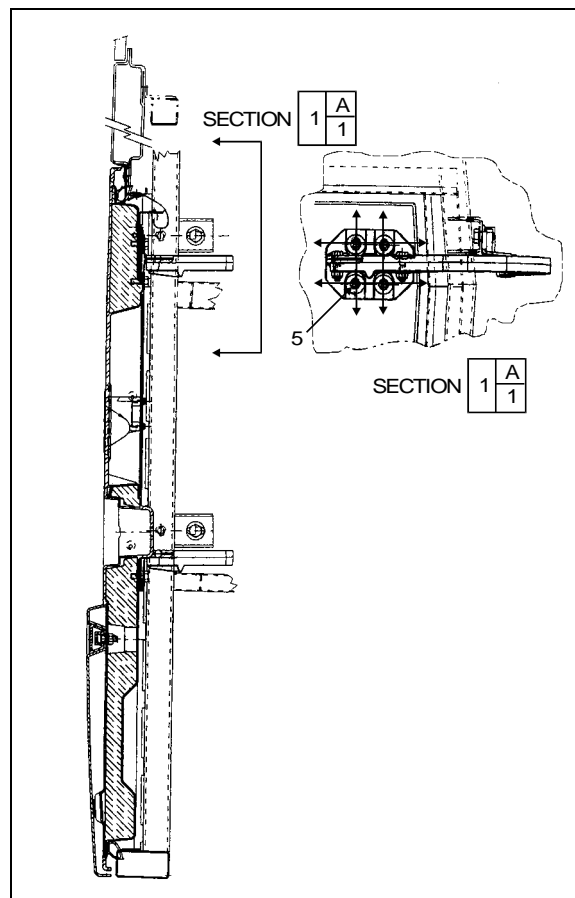

FIGURE 73: FRONT SERVICE DOOR
7. Loosen screws (5, Fig. 73) to allow the door to be shifted "UP or DOWN".